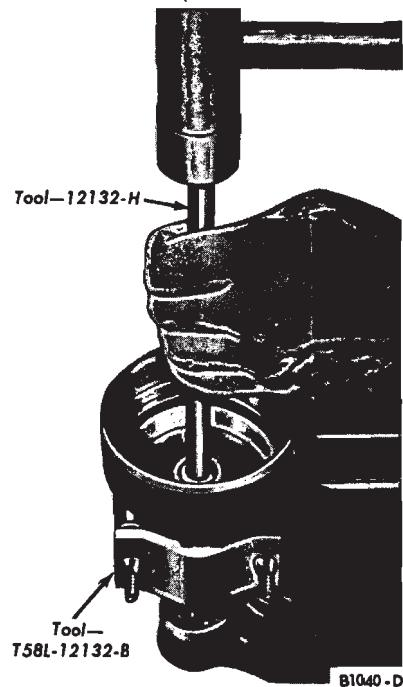

FIG. 15—Removing Lower Bushing V-8 Engine
5. Refer to Figs. 15 and 16 and remove the distributor shaft upper and lower bushings.